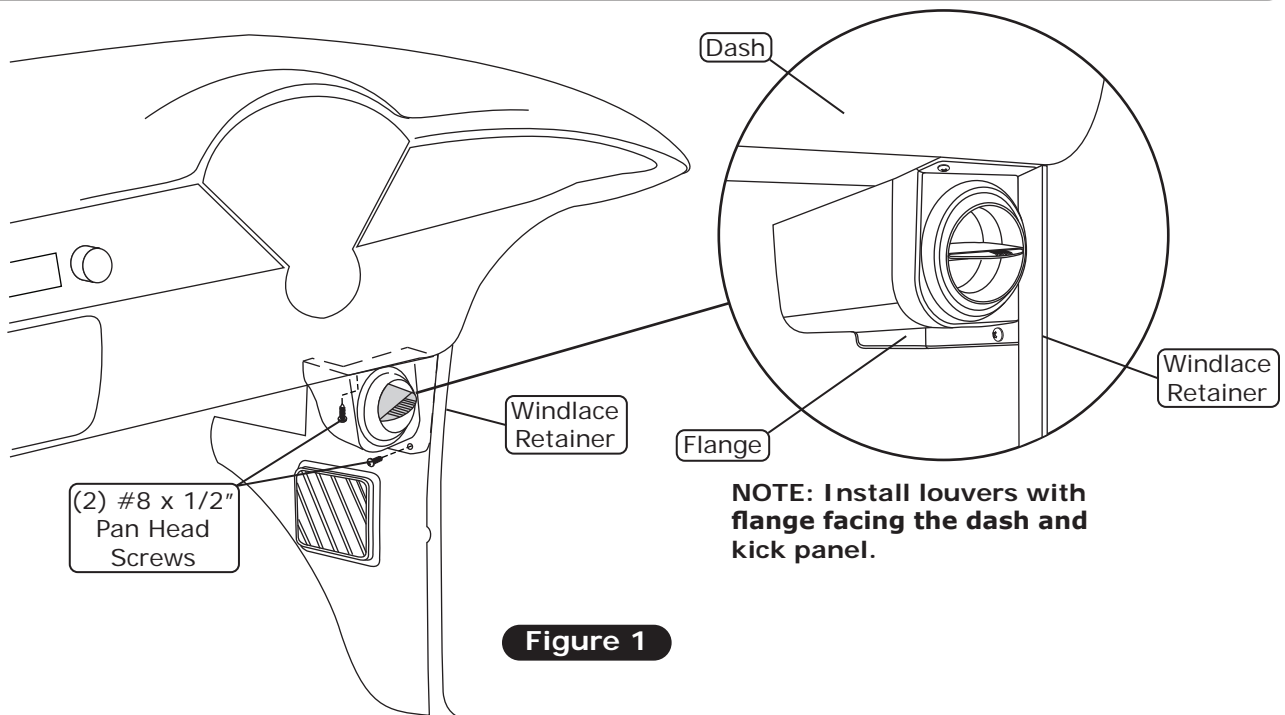

Figure 1
1. Install the driver and passenger side under dash louvers with the flange facing the dash and kick panel as shown in Figure 1, below. Tuck the kick panel side of the louver flange behind the kick panel windlace retainer, and slide the louver up until the flange is seated against the dash. Secure the louver to the kick panel with (2) #8 x 1/2" pan head screws (See Figure 1, below). **NOTE: In most cases, the louvers will fit as described. However, due to dash and kick panel variances, the presence of aftermarket components or modifications, etc., it may be necessary to trim the louver flange and/or slightly move the parking brake lever for proper fit.**
NOTE: When installing the heater control valve, make sure the arrow is facing toward the evaporator module (See Figure 1, below). Measurements given for heater hose lengths in the instructions are recommended but may be modified for different applications.